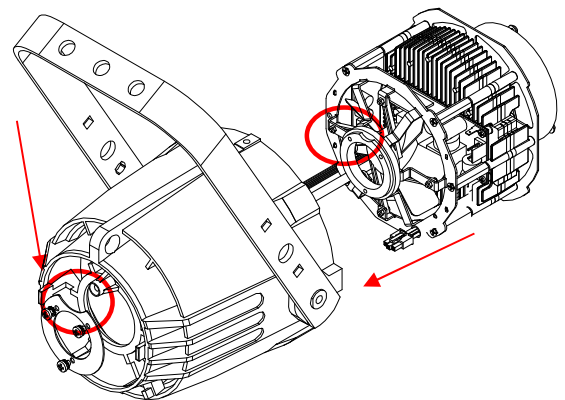

Fig.3
7. Accommodate the HPLED II in the Source4 body. Ensure the correct inward direction is followed as remarked by the 2-red-round ring references. Make also sure to follow the red arrow direction as shown in figure 3. During such operation make sure that the 3 connecting cables (i.e. power cable, DMX cable and display cable) are not squeezed, while being lead through loop-holes during reassembling of the unit.